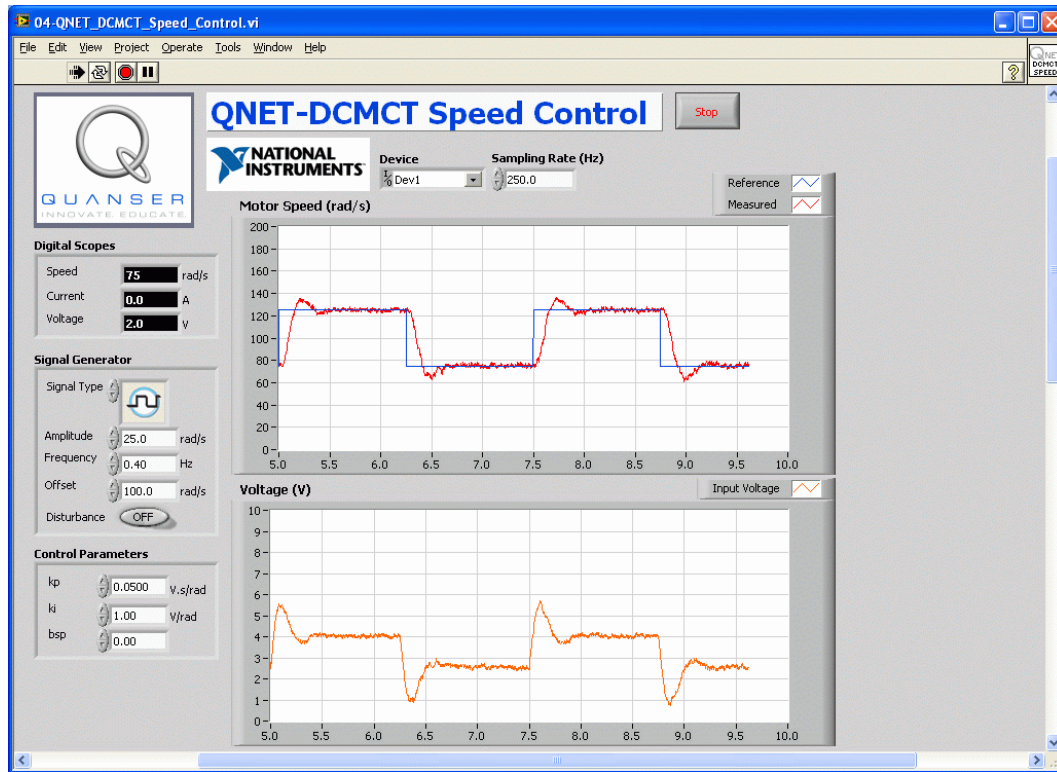

Figure 3.2: Virtual instrument for DC motor speed control
Tracking a square wave with various PD gains are discussed in the laboratory as well as the effects of set-point weighting and integrator windup. The steady-state errors due to triangular references are also assessed. The virtual instrument for speed control is shown in Figure 3.2.
2. Run the QNET\_DCMCT\_Speed\_Control.vi. The motor should begin rotating and the scopes should look similar as shown in Figure 3.2.
2. Run the QNET\_DCMCT\_Speed\_Control.vi. The motor should begin spinning and the scopes should look similar as shown in Figure 3.2.
6. Capture the measured SLD speed response. Make sure you include both the *Speed (rad/s)* and the control signal *Voltage (V)* scopes.